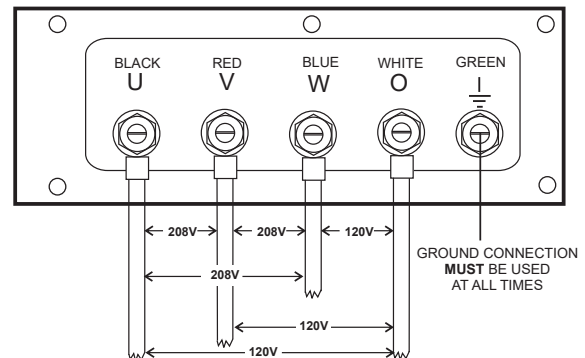

Figure 19. UVWO Terminal Lugs (3-Phase 208-Volt / 1-Phase 120-Volt Connections)
2. Connect the load wires to the **UVWO terminal lugs** as shown in Figure 19.